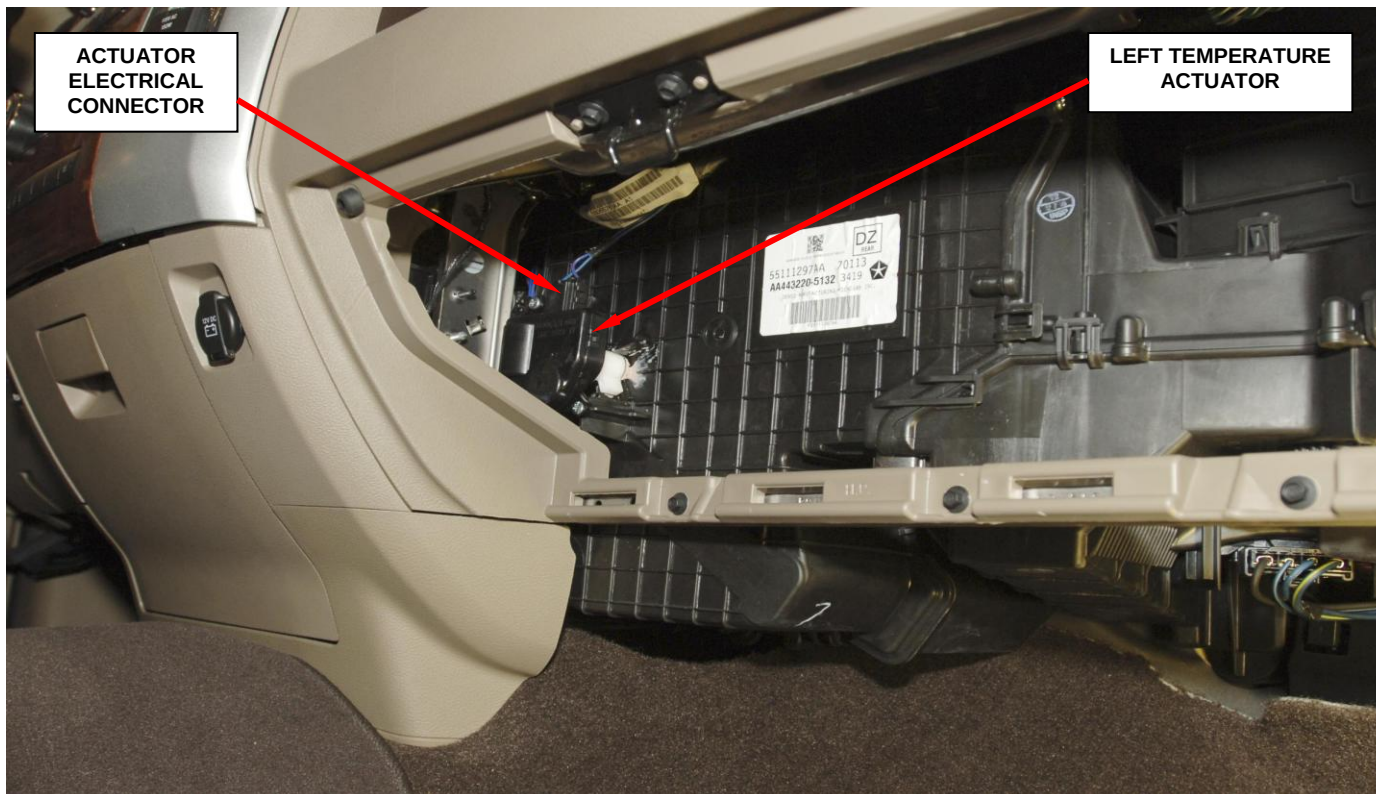

Figure 4 – Left Temperature Actuator Location
3. Disconnect the left temperature actuator electrical connector (Figure 4).
4. Remove the left temperature actuator mounting screws (Figure 4).
5. Remove and discard the left temperature actuator (Figure 4).
7. Install the left temperature actuator mounting screws (Figure 4). Tighten the screws to 9 in. lbs. (1 N·m).
8. Connect the vehicle electrical harness connector to the left temperature actuator (Figure 4).